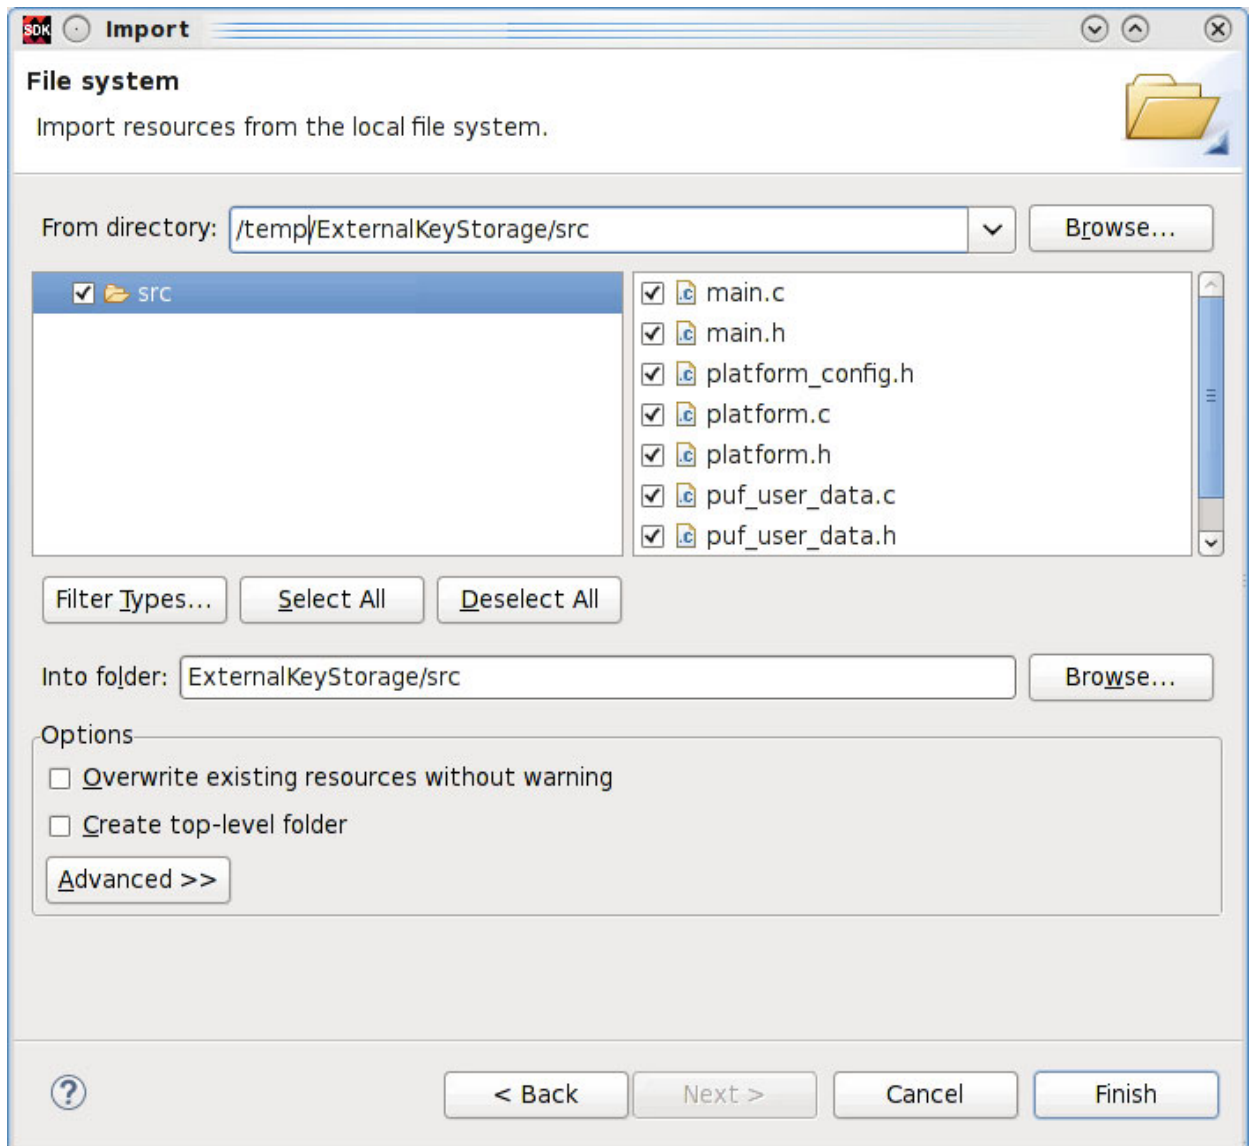

Figure 15: Importing Files from the Reference Design into the ExternalKeyStorage Project
18. Navigate to the `ExternalKeyStorage/src` folder in the reference design file directory and check all ".c" and ".h" files and then click **Finish** as shown in Figure 15.